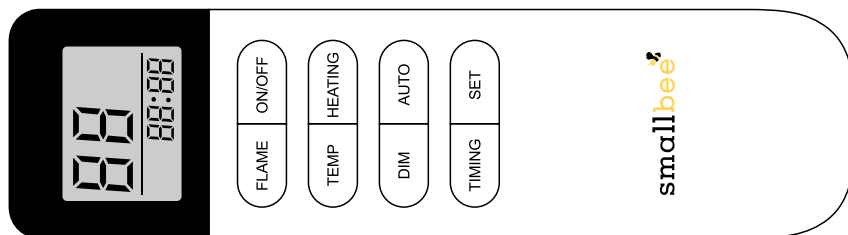

Fig.3
- 2.Using the remote control(Fig.3).